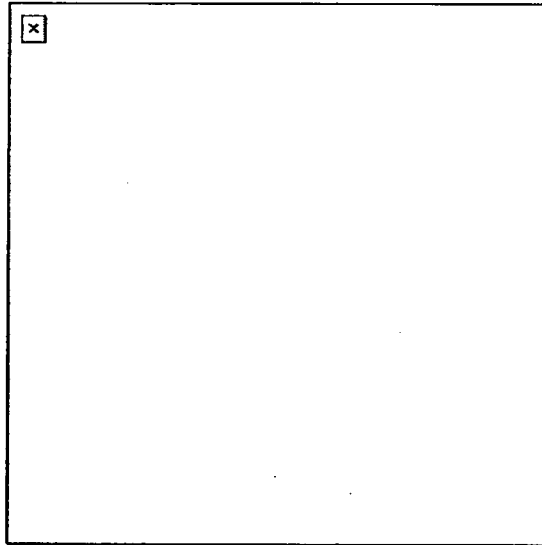

Figure 2. Firing around the right corner of a building.
- b. Fire around the right corner of the building or wall using the right-handed firing technique (Figure 2).